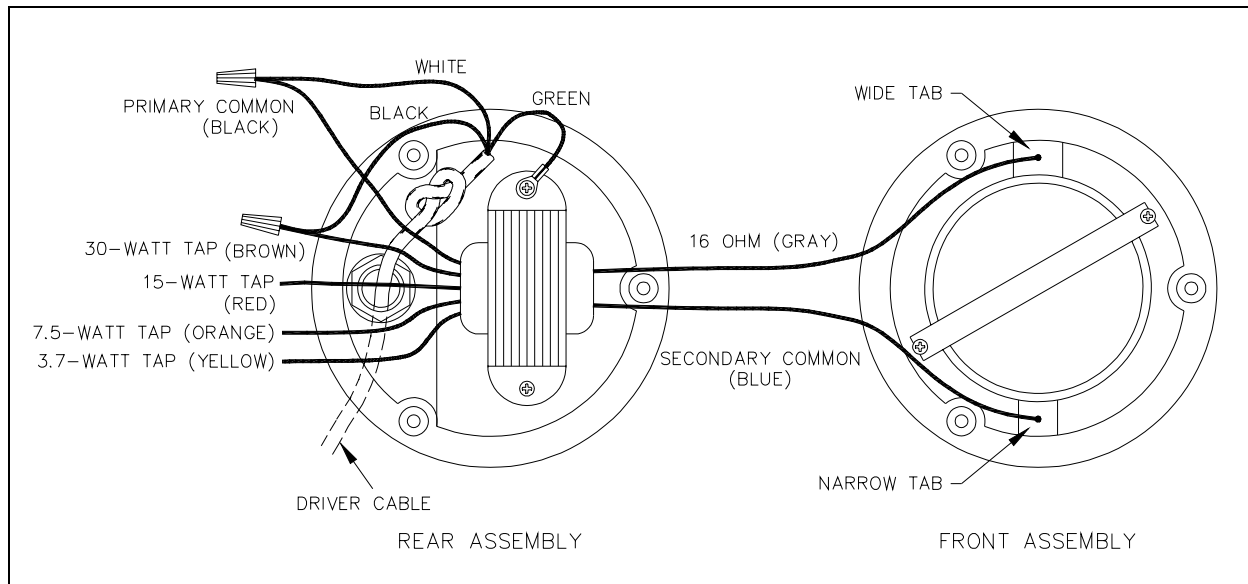

Figure 3. Driver Outline Diagram
A typical installation of a 13314 Series Driver with associated horn and mounting assembly is shown in Figure 3. The recommended mounting height for the driver is 9 feet (2.7 meters) from the floor. Refer to the following chart to verify that the horn is paired with the correct speaker mounting assembly.
2. Remove the three Phillips screws that hold the driver together, and pull the rear assembly away from the front assembly. See Figure 3. Use care to avoid damaging the gasket.
4. Select the desired wattage tap wire, as shown in Figure 3.